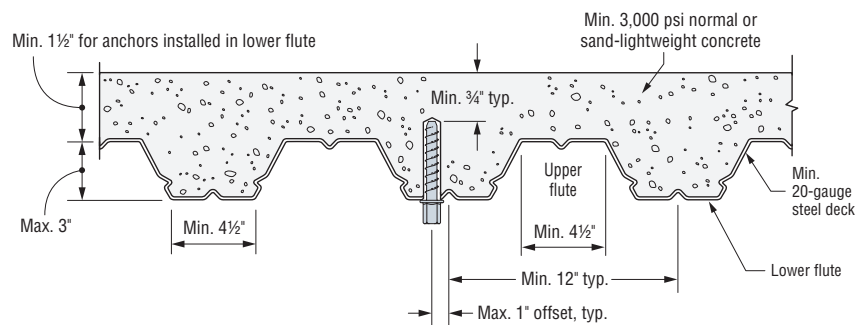

Figure 1. THD50234RH Installation in Concrete over Steel Deck
- For anchors installed in the soffit of sand-lightweight or normal-weight concrete over steel deck floor and roof assemblies, as shown in Figure 1 or Figure 2, calculation of the concrete breakout strength may be omitted.